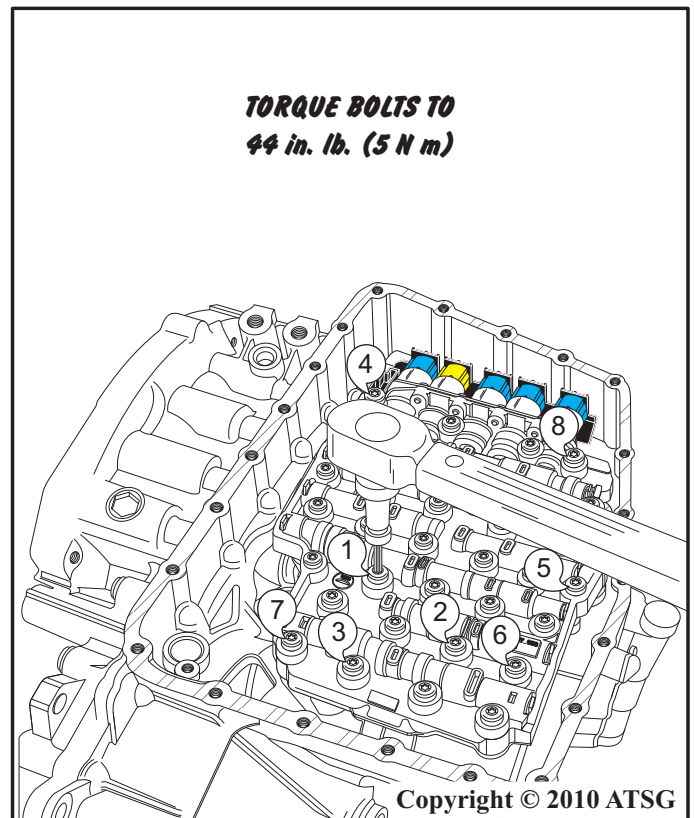

Figure 28
70. Torque the mechatronic unit assembly attaching bolts in the numerical sequence pattern shown in figure 28.